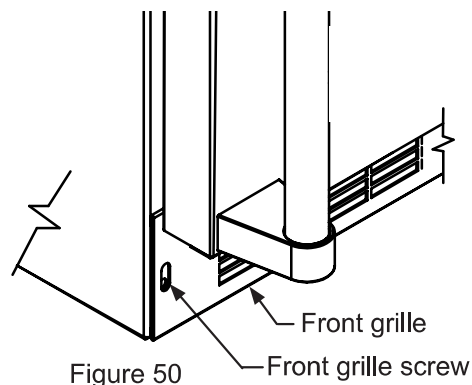

Figure 50
12. Remove the front toe-grille, (see Figures 50 and 51), and use a brush and vacuum to clean dirt and debris from beneath the unit.